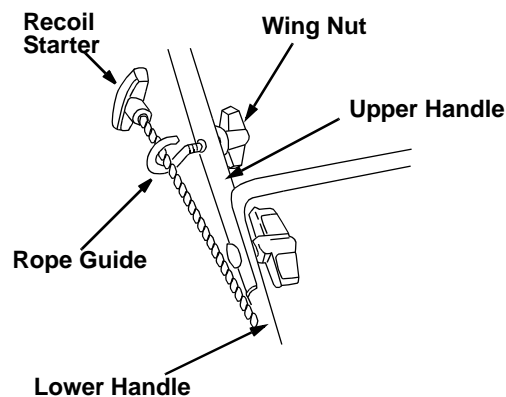

FIGURE 4
The rope guide is already attached to the right side of the upper handle of your mower. See Figure 4.
- Slip the rope through the rope guide. Tighten the wing nut holding the rope guide to the upper handle. See Figure 4.